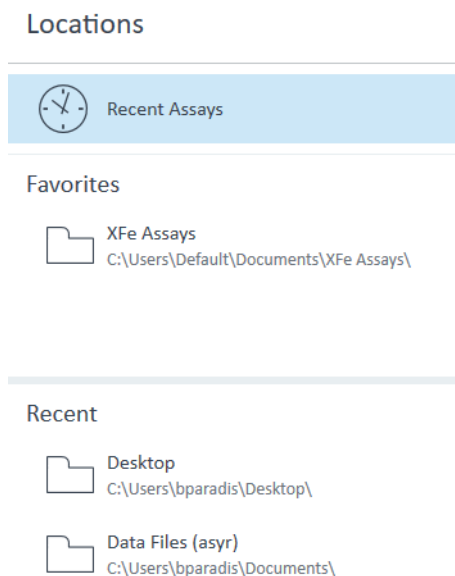

Figure 96 Recent Assays, recent places, and favorite places
- **Favorites** displays user-defined locations (local or network directories) where assay result files are frequently added to, or accessed from. Once configured, each local directory added as a Favorite Place will appear below **Recent Assays** as a folder icon. (See Figure 96.)
- **Recent** displays the file location (for both local and network directories) of recently opened assay result files in the order of when each result file was opened. (See Figure 96.)